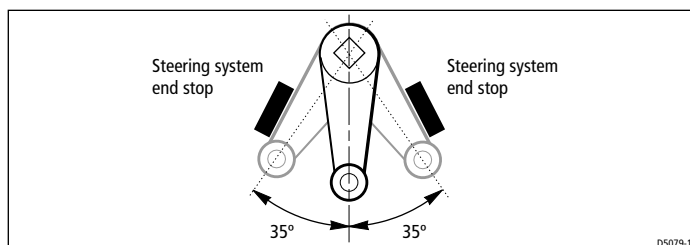

Figure 8: Total rudder movement
- The total rudder movement is limited to  $\pm 35$  degrees by the steering system end stops rather than the linear drive's end limits (see *Figure 8*).